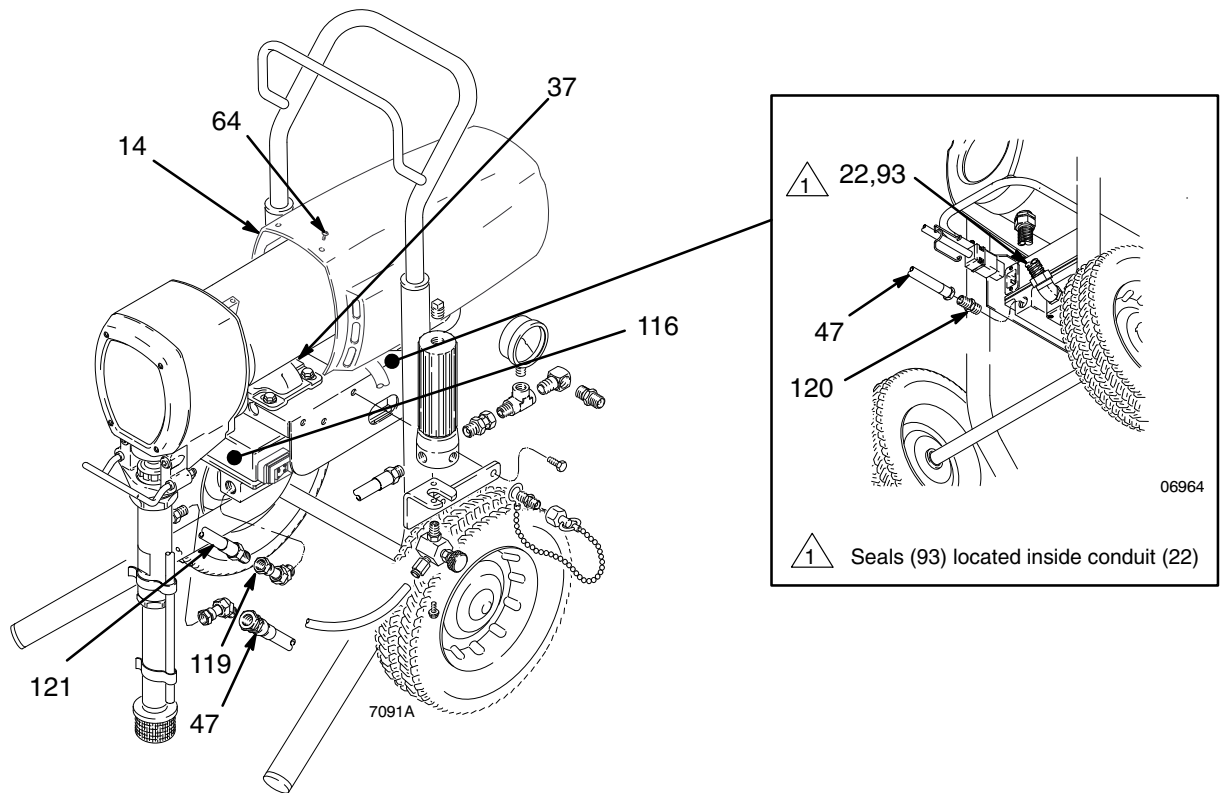

Fig 15
2. Remove ten screws (64) and motor shield (14). See Fig. 15 and parts list, except as noted.